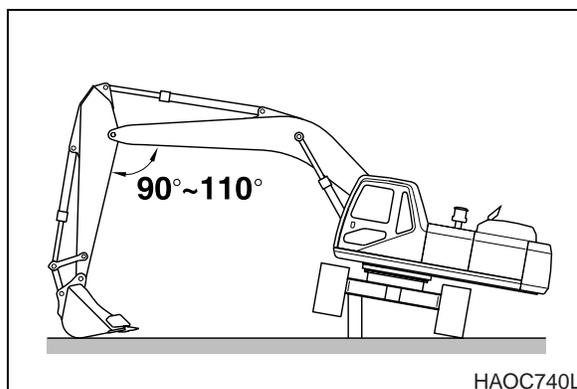

Figure 99
1. Track tension is checked by jacking up one side of the excavator. See Figure 99. Place blocking under frame while taking measurement.